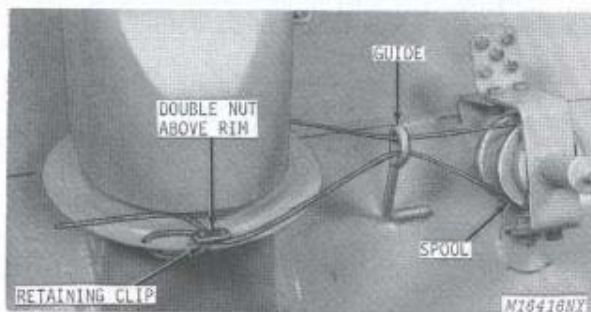

Fig. 6A-Control Cable Correctly Attached
1. Loop one end of cable around cast spool and insert both ends of cable through eye of cable guide. See Fig. 6A. Turn control handle until cable ends are exactly the same length when pulled across the discharge opening.